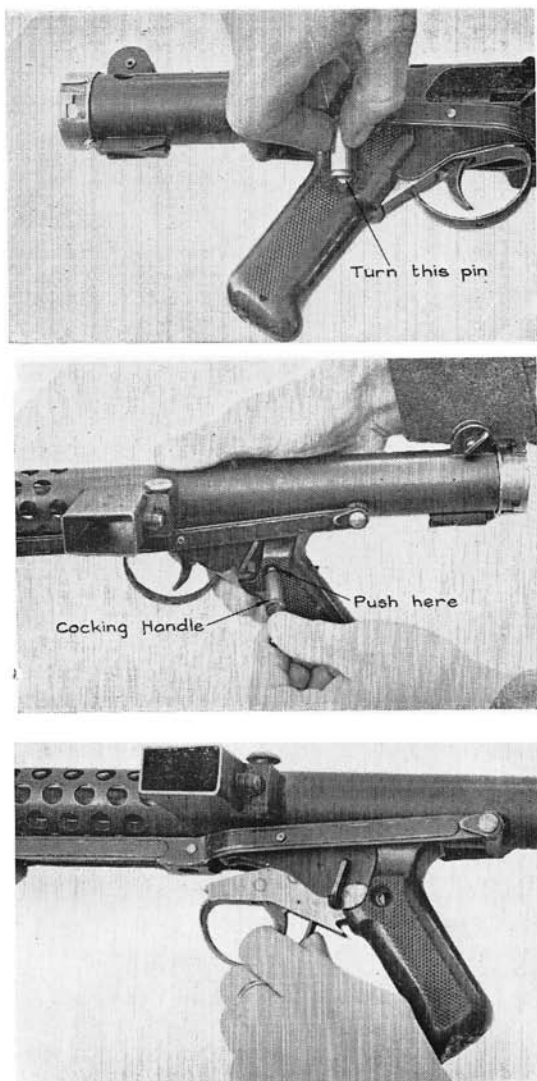

Fig 4.—Taking out the trigger group
- (h) Put the safety catch at "S". Use a small coin or the rim of a cartridge, and turn the trigger group retaining pin until the slot is in line with the word "FREE". Push the other end of the pin with the blunt end of the cocking handle, and take it out. (See Fig 4). Press the trigger to free the trigger group from the body, and pull the trigger group out forwards.